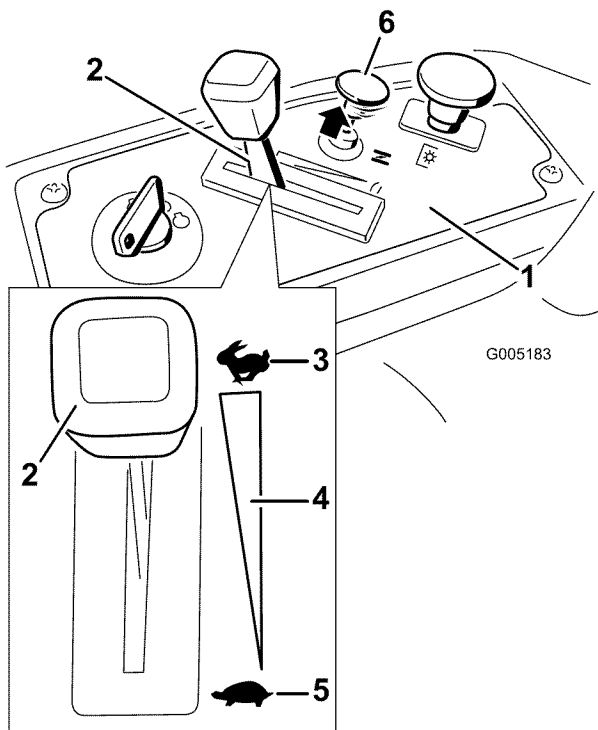

Figure 12
3. Pull up on the Choke control before starting a cold engine (Figure 12).
2. Move the throttle lever to between Fast and half throttle (Figure 12).